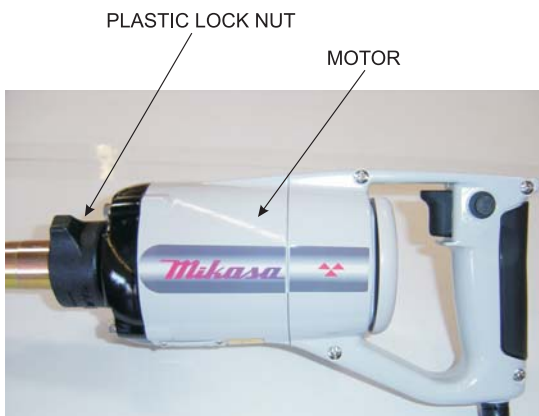

Figure 1. Plastic Lock Nut Removal
2. Turn the plastic lock nut clockwise until completely loose (Figure 1).